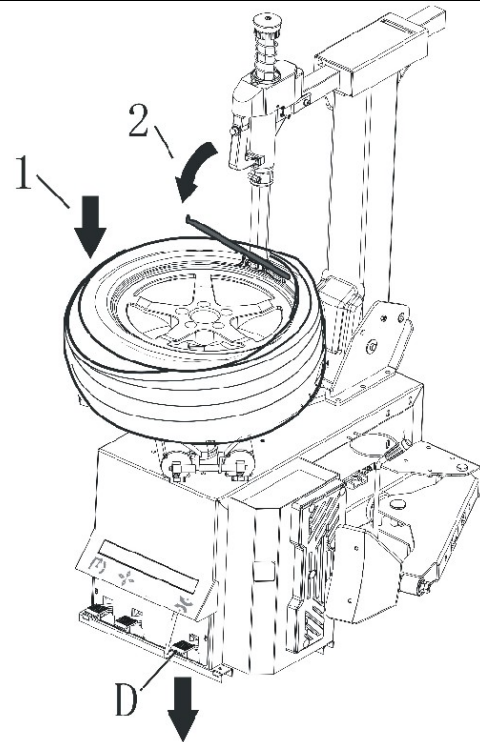

Fig.18
- Insert the crowbar to the tyre as show Fig.18.
- Press the pedal D (Fig. 18) until all the tyre edge come out.
- Please stop and counter clockwise rotation the working plate to correct the operation if hard to operate. (Fig. 18)